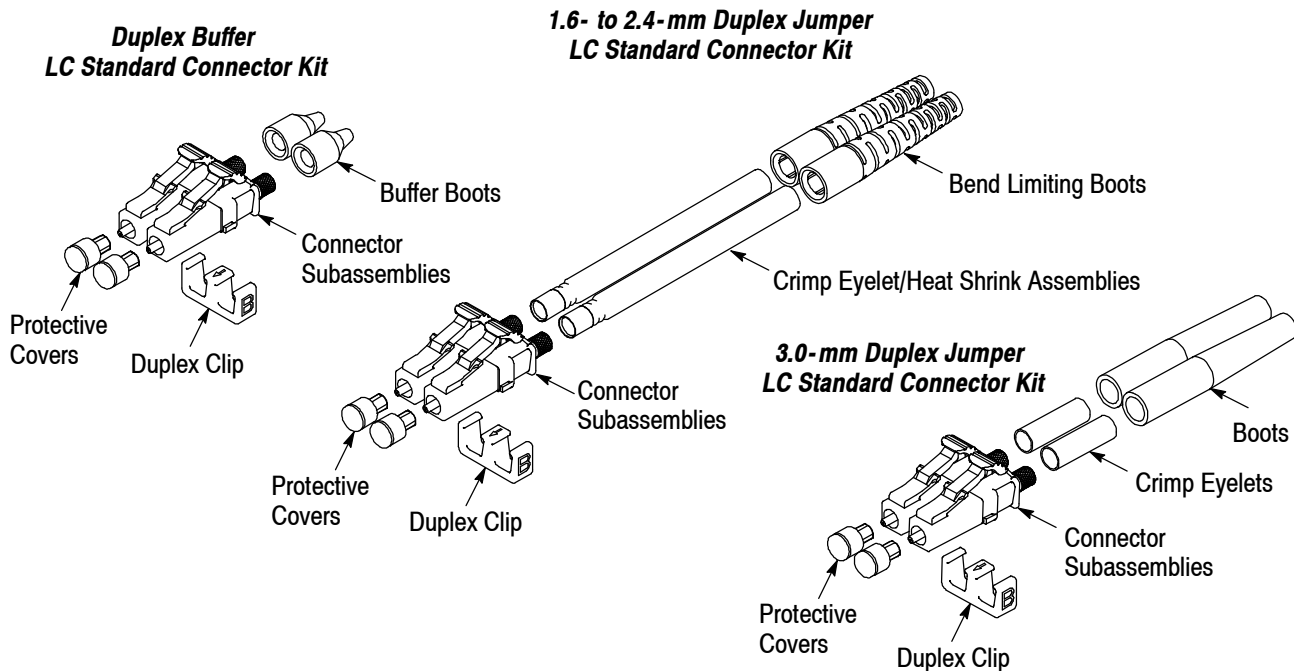

Figure 1
2. DESCRIPTION (Refer to Figure 1)